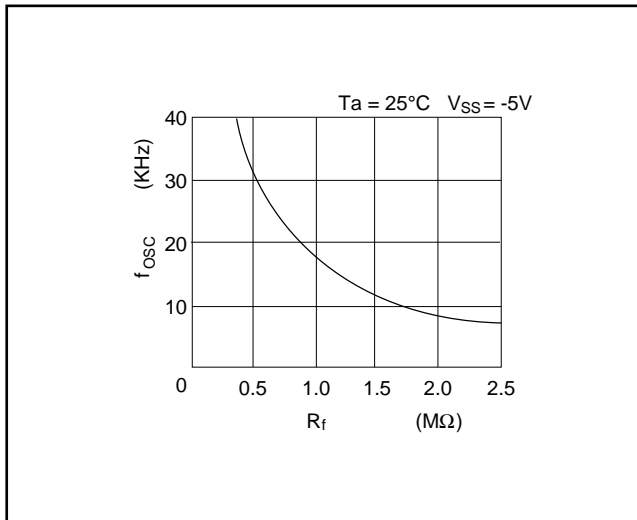

Figure 5.1
- *9. Relationship between the oscillation frequency, frame and R_f (see Figures 5.1 – 5.3).